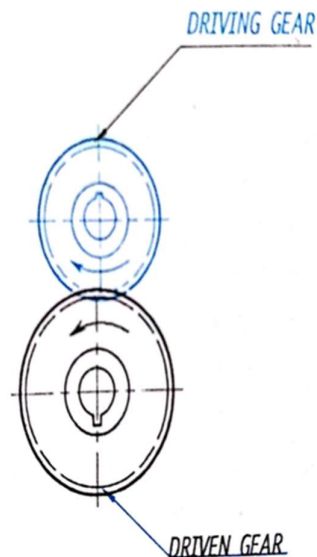

Fig.2. Helical Gear
- Helical gears are similar to the spur gears except that the teeth are cut in the form of the helix around the gears as shown in Fig. 2.